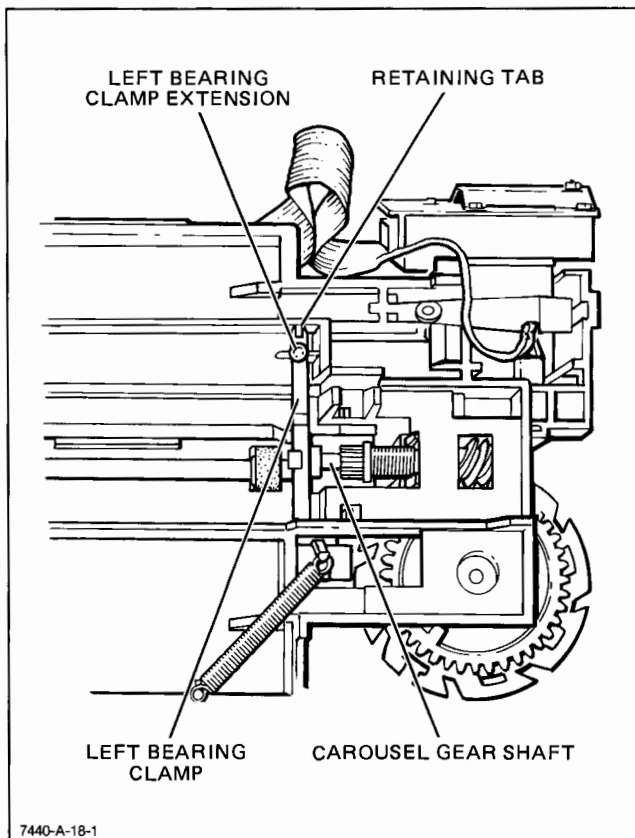

Figure 6-13. Grit Wheel Assembly Removal, Detail A
- j. Remove the paper drive belt tensioner. See Figure 6-13, Detail B.
- k. Remove the pinch wheel arm cam. See Figure 6-13, Detail B.